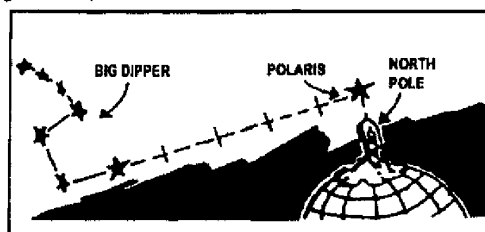

Figure C-45. North Star method
3. Use the North Star method to determine direction at night. At night, you can locate north by finding the North Star (Polaris). First, find the Big Dipper. The last two stars in the cup point directly at Polaris, which is about five times as far out as the distance between those two stars in the cup. Facing Polaris, you are looking north, with east on your right and west on your left (figure C-45).